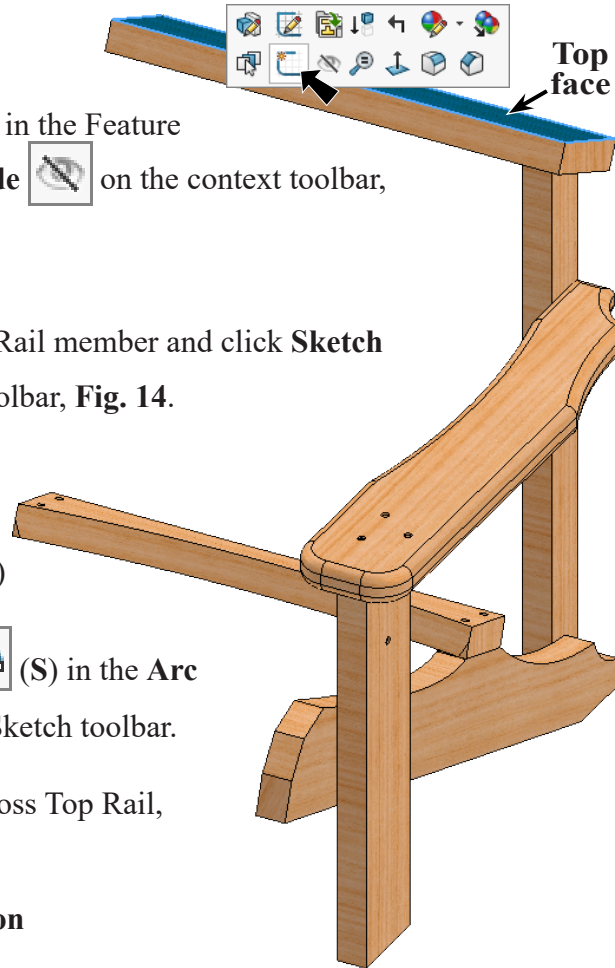
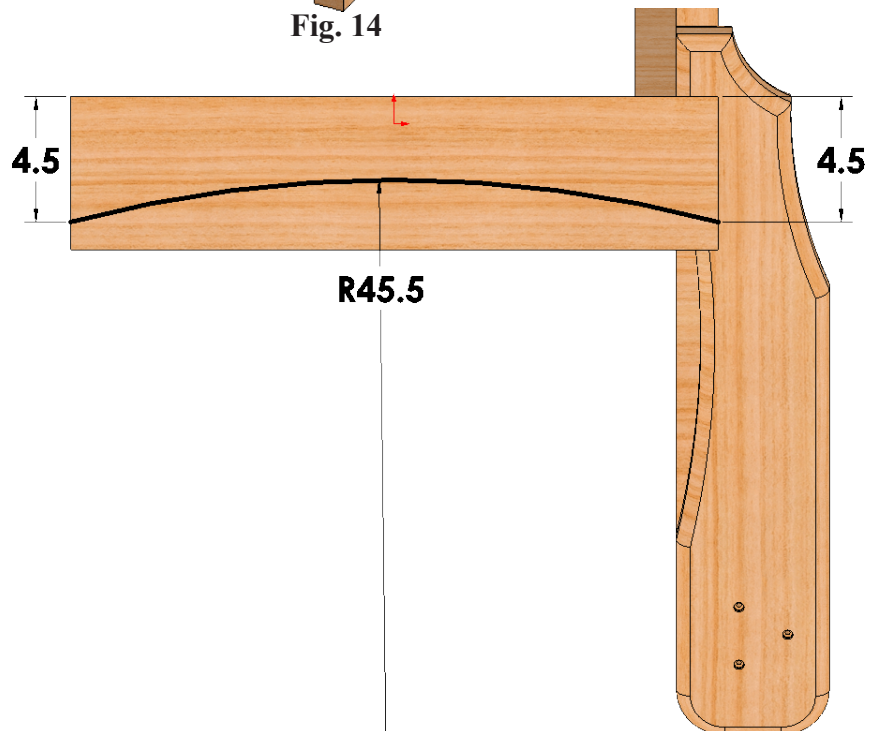

Fig. 14
Fig. 15
Step 1. Click top face of Top Rail member and click Sketch  on the context toolbar, Fig. 14.
Step 3. Click 3 Point Arc  (S) in the Arc flyout  on the Sketch toolbar.
Step 4. Sketch 3 Point Arc across Top Rail, Fig. 15.
Step 5. Click Smart Dimension  (S) on the Sketch toolbar.
Step 6. Dimension both 4.5s first, then arc 45.5, Fig. 15.